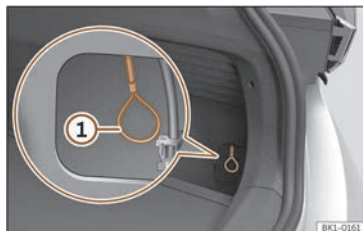

Fig. 63 Behind the cover: emergency unlock of the charging connector.
- Pull the emergency manual release loop  >>> **Fig. 63**. The charging connector can be removed >>> .